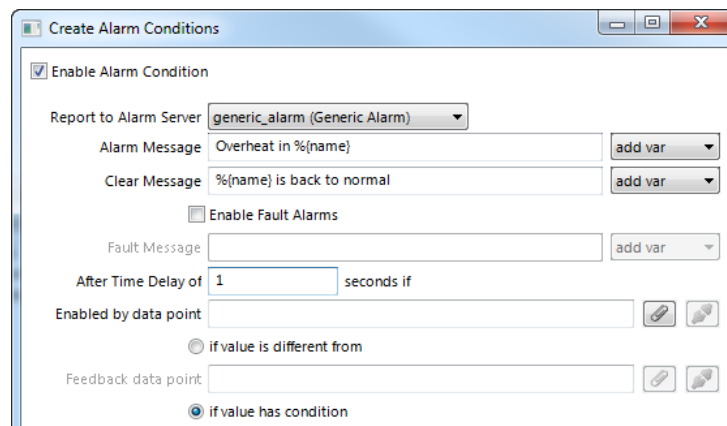

Figure 89: Common settings for an alarm condition.
3. For the alarm condition, edit the following definitions which apply to all condition types as shown in Figure 89. Select the **Alarm Server** which the alarm shall be reported to. Typically, you will choose a generic alarm server.